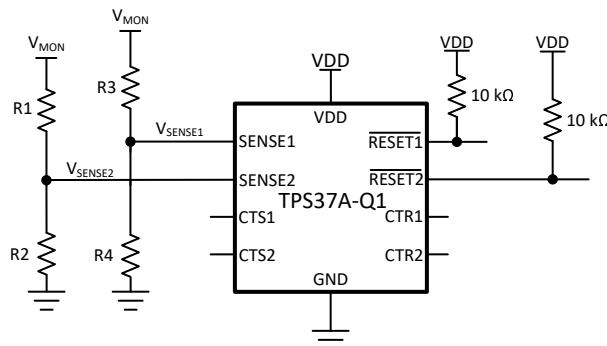

Figure 10-1. Adjustable Voltage Threshold with External Resistor Dividers
For example, consider a 12 V rail being monitored V_{MON} for undervoltage (UV) using channel 2 of the TPS37A010122DSKRQ1 variant. Using Equation 7 and shown in Figure 10-1, R_1 is the top resistor of the resistor divider that is between V_{MON} and V_{SENSE2} , R_2 is the bottom resistor that is between V_{SENSE2} and GND, V_{MON} is the voltage rail that is being monitored and V_{SENSE2} is the input threshold voltage. The monitored UV threshold, denoted as V_{MON-} , where the device will assert a reset signal occurs when $V_{SENSE2} = V_{IT-(UV)}$ or, for this example, $V_{MON-} = 10.8V$ which is 90% from 12 V. Using Equation 7 and assuming $R_2 = 10k\Omega$, R_1 can be calculated shown in Equation 8 where I_{R1} is represented in Equation 9: